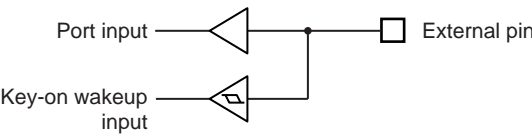

Figure 18-2 Key-on Wakeup Input and Port Input
- Note 3: The input circuit of Key-on Wakeup input and Port input is separated. As each input voltage threshold value is different. Therefore, a value comes from port input before STOP mode start may be different from a value which is detected by Key-on Wakeup input (Figure 18-2).